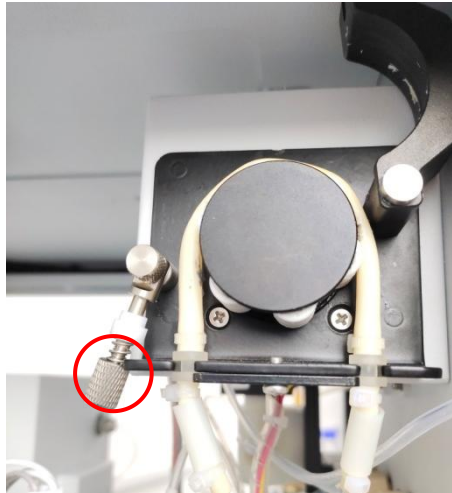

Fig.6.38
4)Unscrew the hand screw nut of the peristaltic pump tube gland (Fig. 6.38) and remove the pump tube by moving it outwardly .